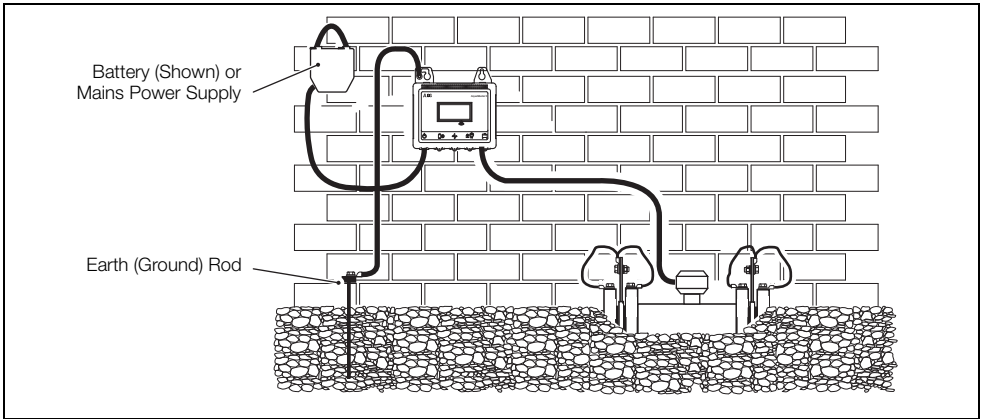

Fig. 3.1 AquaMaster3 Transmitter Mounted in a Chamber – Flanged Sensor
**Note.** The grounding arrangements shown in Figs 3.1 to 3.3 are applicable to: